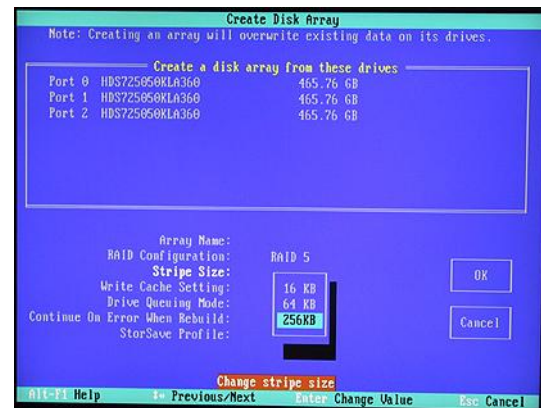

Figure 3-50
- 7) Next, use the up/down arrow keys to highlight the **Stripe Size** item, and then press the <Enter> key to access an associated pop-up dialog (Figure 3-50).